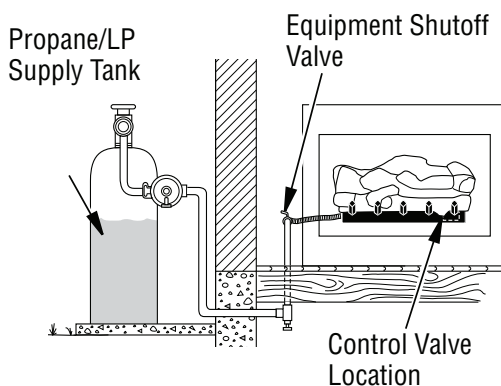

Figure 16 - Checking Gas Joints (Propane/LP Only)
3. Check all joints from gas meter to equipment shutoff valve for natural gas or propane/LP supply to equipment shutoff valve for propane/LP (see *Figures 16 or 17 on Pages 15*). Apply noncorrosive leak detection fluid to all joints. Bubbles forming show a leak.